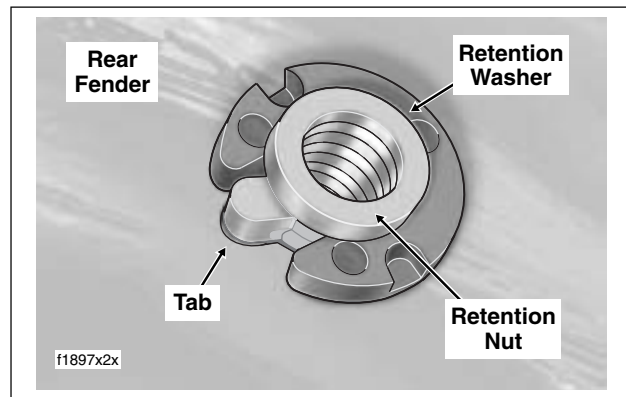

Figure 2-129. Seat Retention Nut and Washer
2. See Figure 2-129. With tab on retention nut seated in notch of fender hole, pull up on cable strap to hold nut snug against underside of rear fender. From the side opposite the tab, slide on the retention washer to lock the position of the retention nut. Remove cable strap.